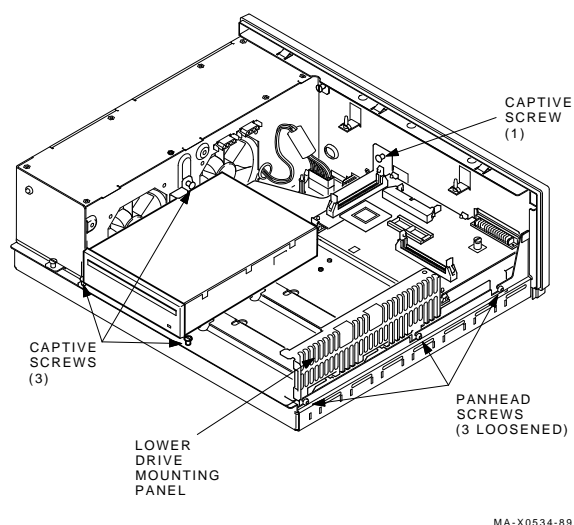

Figure 4-15 Unscrewing the Lower Drive Mounting Plate
3. Unscrew the seven screws (Figure 4-15).
1. Position the lower drive mounting plate (Figure 4-15) and tighten the seven screws.